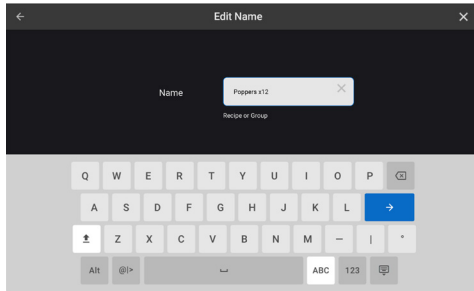

Figure 31: New Recipe Name
- Input the recipe name and touch the blue arrow button to continue (Figure 31, below).